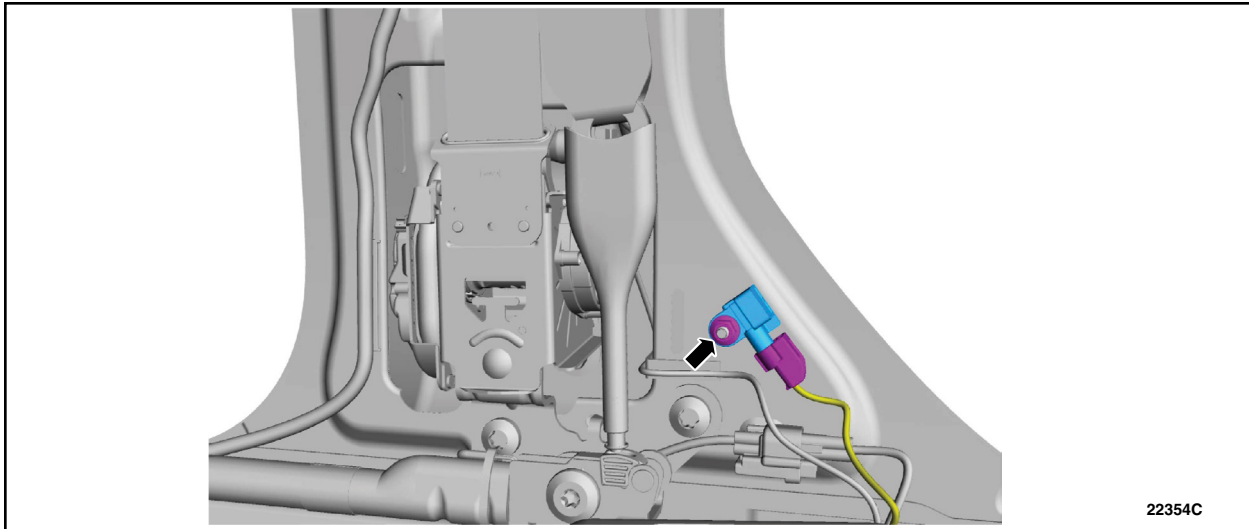

FIGURE 10
21. Install the *new* retaining nut. See Figure 10.